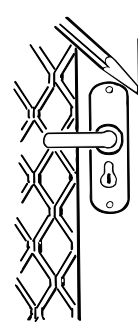

Fig 13 Mark the height of the lock tongue on the door jamb.
1. Close the door and mark the height of the lock tongue on the door jamb (Fig 13).